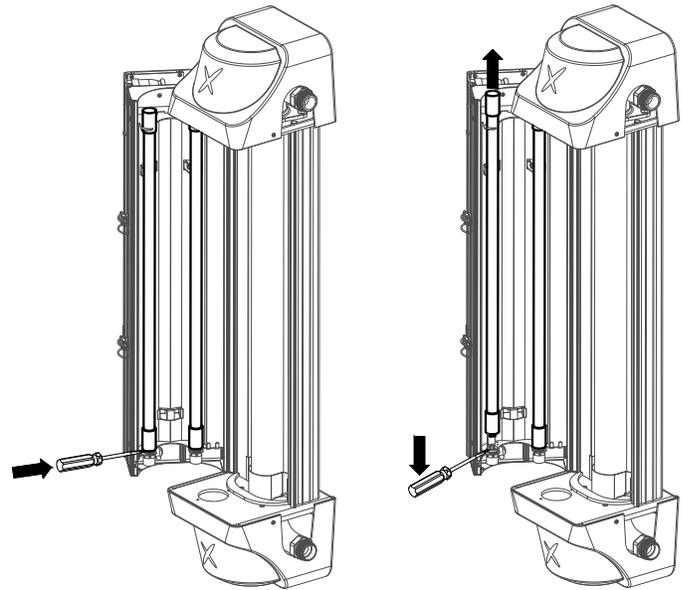

Figure 7-3
2. Use a slotted screwdriver to pry the lamps up between lamp base and ceramic socket, see Figure 7-3.